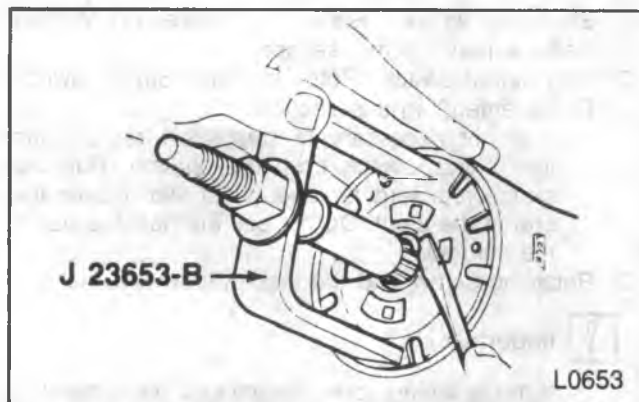

Figure 11—Removing Retaining Ring
↔ Remove or Disconnect (Figures 11 through 13)
- Screw the center post of J-23653-A onto the steering shaft as far as it will go. Compress the lock plate by turning the center post nut clockwise. Pry the retaining ring out of the shaft (figure 11). Remove J-23653-B.